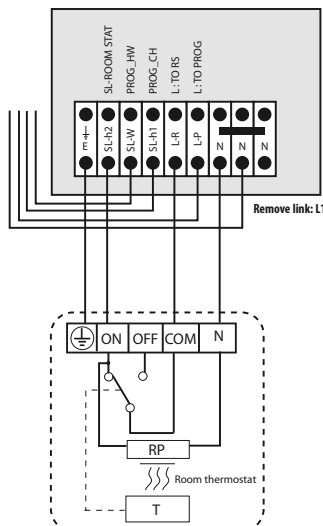

Figure 4.6 Room thermostat wiring diagram for standard GulfStream models with factory fitted 2 channel programmer (Standard)
- Wire the room thermostat to the appliance terminals as shown in figure 4.6.